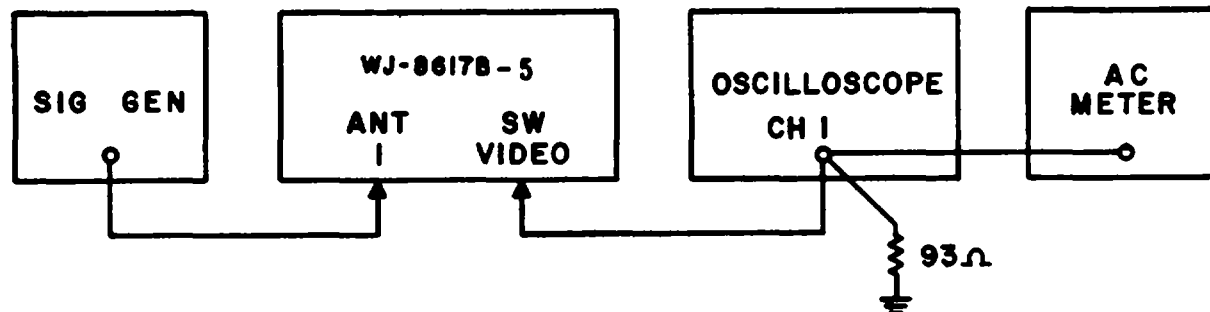

Figure 4-28. SSB BFO Alignment, Equipment Connections
5. Remove the RF millivoltmeter and connect the test equipment as illustrated in **Figure 4-28**.